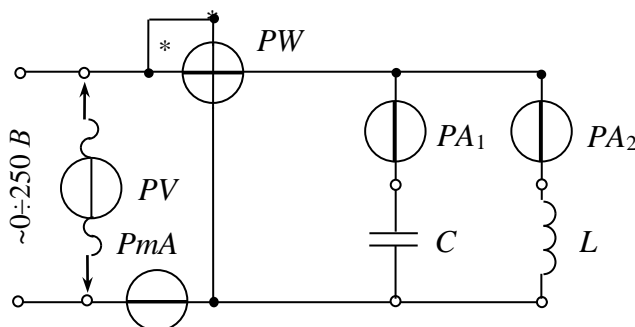

Fig. 5.6
1. To collect the circuit (fig. 5.6) and connect it to the clamps $< \sim >$ $< 0 \div 250V >$. To place $LATR$ switch in the position $< \sim >$, $0 \div 250V$.
The name and purpose of the work. Homework – the calculation of the circuit. Schematic diagram of the investigated circuit (fig 5.6). Tables 5.2, 5.3. The vector diagrams. Conclusions.